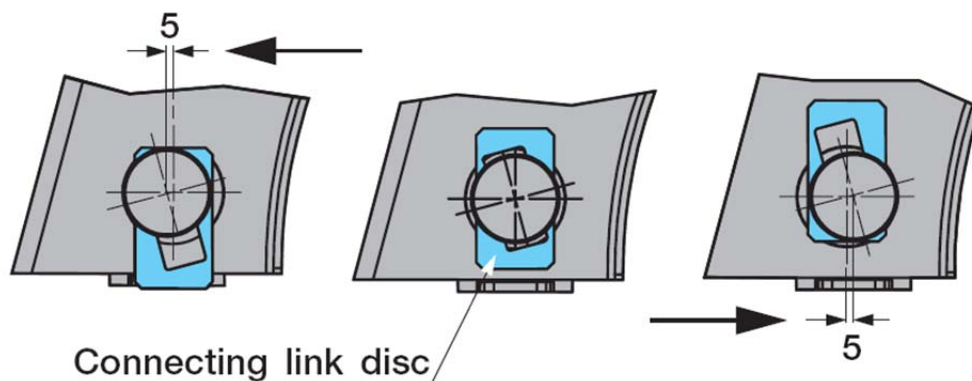

Figure 5: Tracking plate on spring bolt assembly.
6. Slide the connecting linkage on both sides, as required, upwards or downwards with **light** hammer blows, see *figure 5* below.